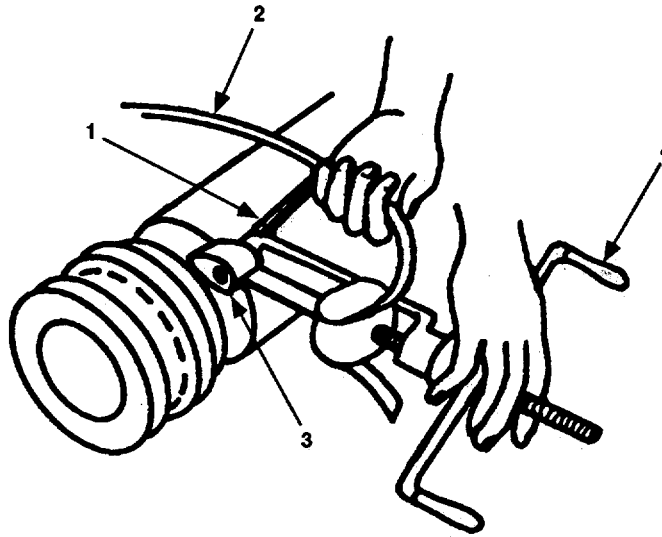

Figure 3-8. Removing Banding Tool.
- t. Pull cutting handle (Figure 3-8, 1), cut strapping (2) and remove banding tool (4).